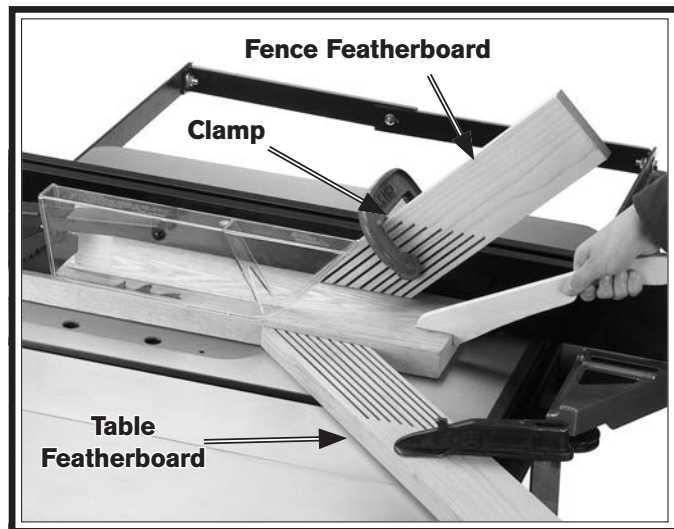

Figure 87. Example of featherboards secured with clamps.
3. Place a featherboard on table away from blade so all fingers point forward and contact workpiece (see **Figure 87**).